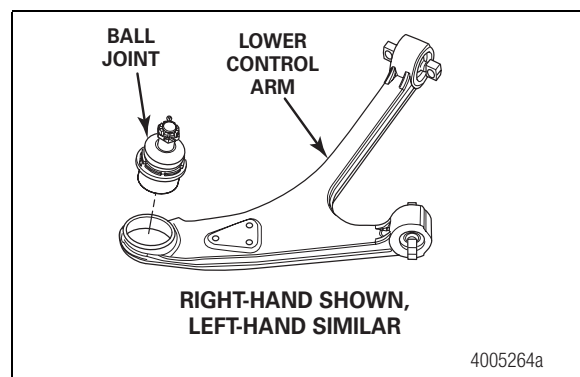

Figure 5.12
- Place the lower control arm into a suitable holding fixture with the ball joint stud facing UP. Figure 5.12.